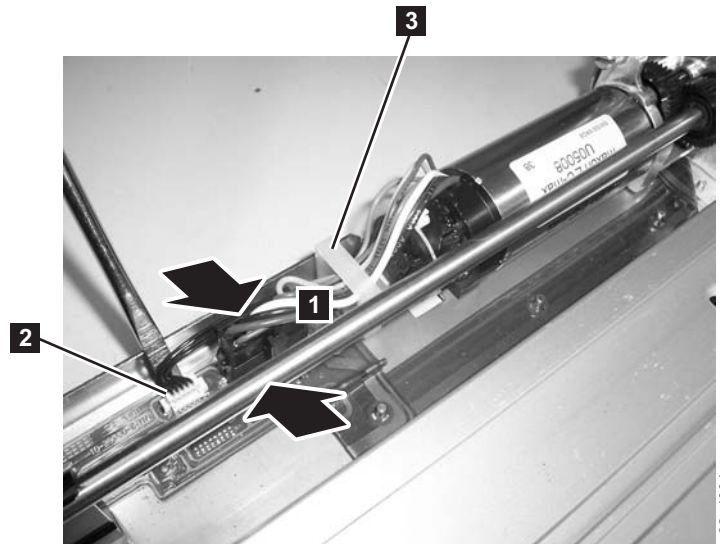

Figure 8-57. Y motor connector
3. Connect the small white connector (**2** in Figure 8-57 on page 8-59).
4. Connect the large black connector. See Figure 8-57.
- a. Pinch the latch on the cable connector (**1** in Figure 8-57).